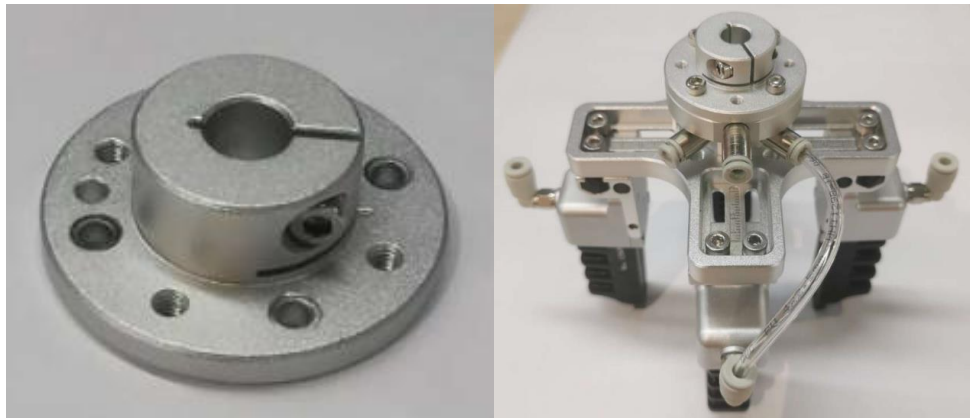

Figure 2.5 Install the end flange of MG400
Step 5 Install the end flange of MG400 to connection block, and tighten four screws; install the PU tube, as shown in Figure 2.5.